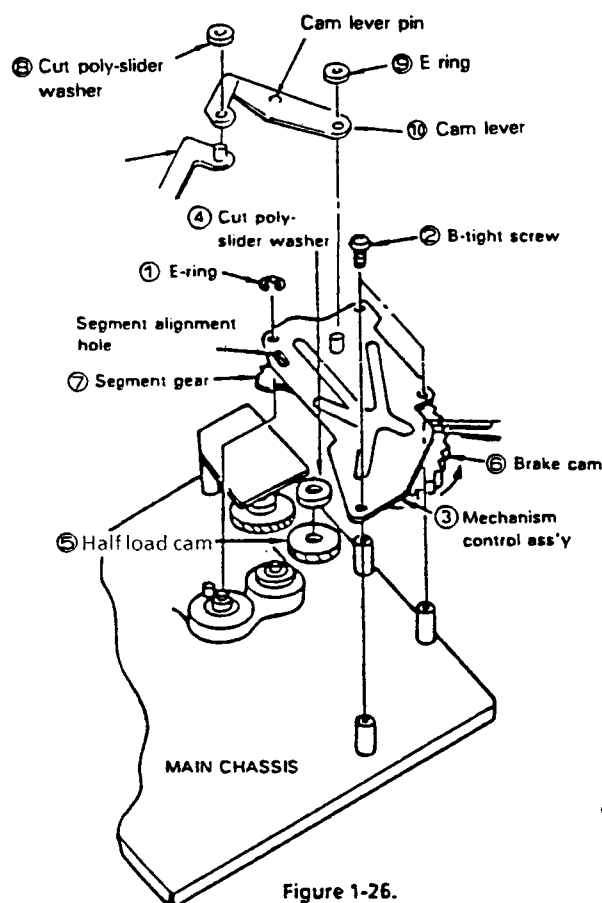

Figure 1-26.
- **Removal (Fig. 1-26)**
2. Remove the cut poly-slider washer ⑧, E-ring ⑨ and cam lever ⑩.
3. Remove the E-ring ①.
4. Remove the three screws ② (LX-HZ3027GEFD).
5. Remove the mechanism control assembly ③.
- **Installation (Fig. 1-26)**
1. Remove the cut poly-slider washer ④.
2. Remove the half load cam ⑤.
3. Adjust the position of the shifter assembly (A) 11 so that the alignment hole ① of the chassis is aligned with the alignment holes of the shifter assembly and brake drive lever 13. (Remove the main brake spring 14 for easier positioning.)
4. Remove the tension arm spring, and fully turn loading gears (A) ⑧ and (B) 10 in the direction indicated by the arrow ⑥, to get the mechanism in the unloading mode.
5. Turn the brake cam ⑥ of the mechanism control assembly in the direction indicated by the arrow until the alignment hole ③ of the segment gear is at the center of the segment alignment hole for the auxiliary angle.
6. Attach the mechanism control assembly ③ to the main chassis. This can be done easily if the shifter assembly (A) 11 is moved to the left and right.
7. Secure the three screws ②.
8. Put the E-ring ① on.
10. Install the half load cam ⑤ (See page 19).